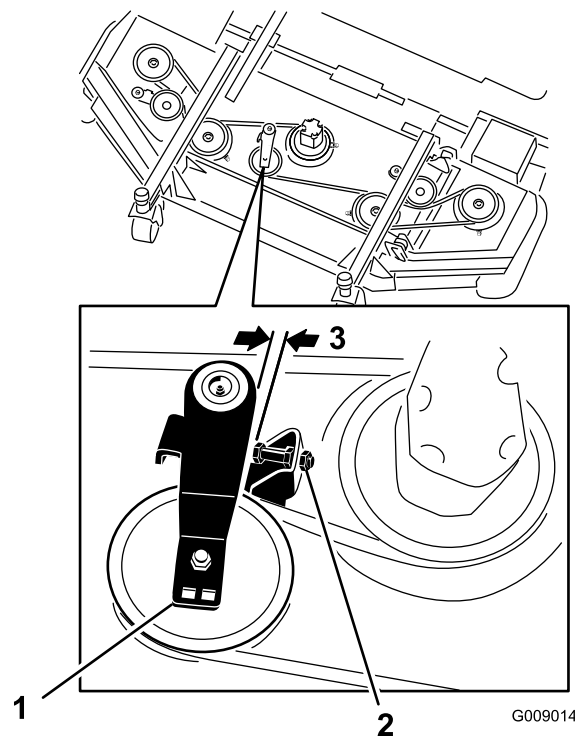

Figure 80
2. On the front deck, loosen the jam nuts on the idler pulley stop screw and thread the stop screw in to the bracket (Figure 80).
3. Using a ratchet wrench or similar tool, move the idler pulley (Figure 80) away from the drive belt to release the belt tension and allow the belt to be slipped off the deck pulleys.